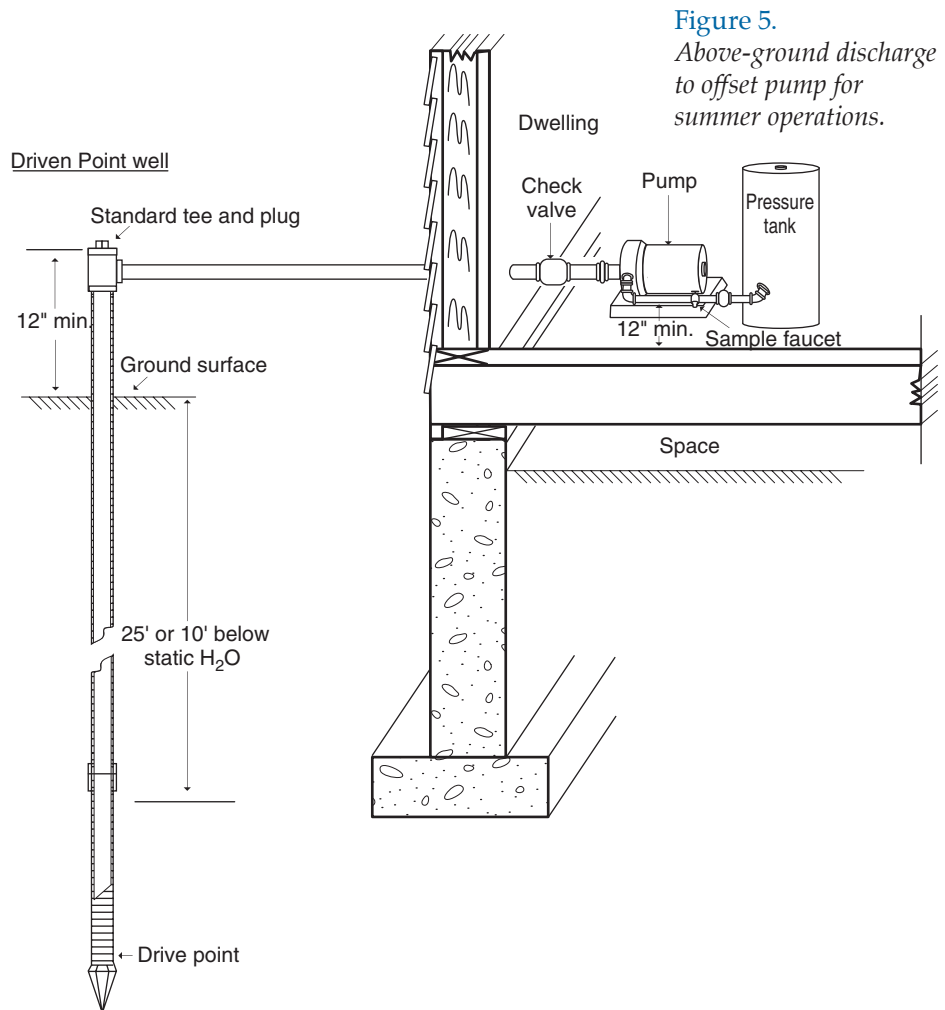

Figure 5.
- ▼ Outside, unprotected for warm season operation (Figure 5).